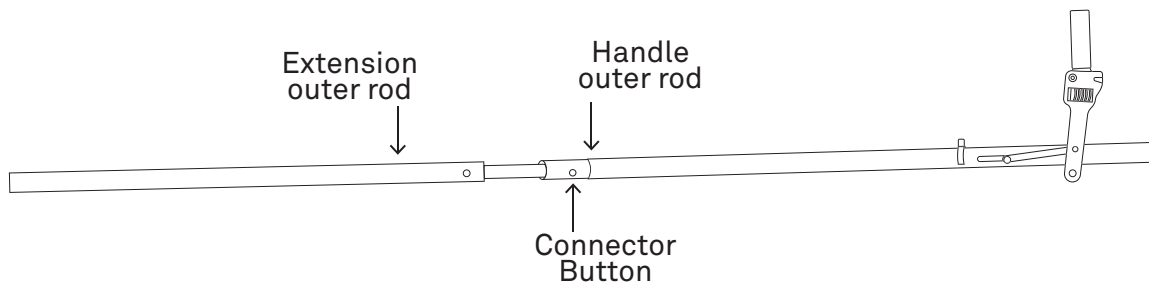

Figure 7 Connect outer extension rod to outer handle rod
4. Connect the outer extension rod to the handle rod (Figure 7).